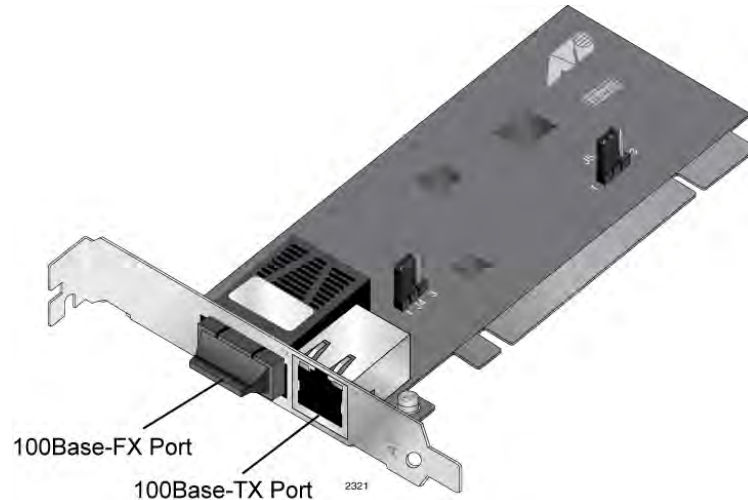

Figure 1. AT-MC102XLPCI Media Converter
An AT-MC102XLPCI Media Converter is illustrated in Figure 1.
- ❑ 100Base-TX twisted-pair port Half- or full-duplex operation - See Figure 1.
- ❑ 100Base-FX fiber optic port - See Figure 1.